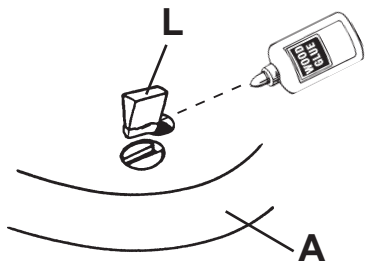

FIG. 2
- 3) Turn the chair upside down, being sure to protect the top of the seat with a towel or cardboard. Put a little glue on the tapered ends of the wood wedges (L) and pound them into the slots in the bottom of the back posts (C) as shown in FIGURE 2. Be careful not to displace the back posts.